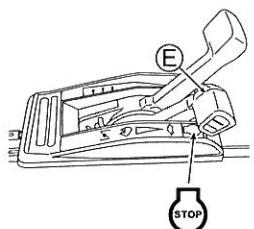

Fig. 5. 2
- 6 To interrupt mowing work halfway or finish it, return Drive clutch lever (B) and Blade lever (C), and then set Throttle lever (E) to "STOP" to stop the engine. (See Fig. 5.)